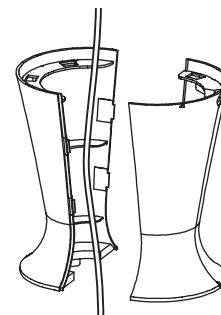

Fig. 3
- Place the power cord in the middle then line up the left and right pedestal assembly and firmly snap together (Fig. 3).